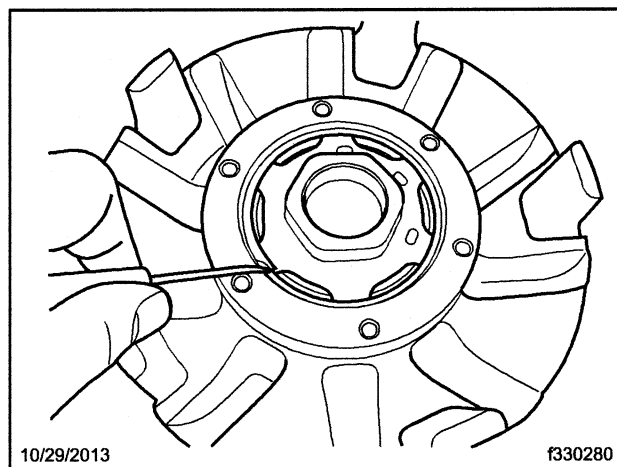

Fig. 5, Removing a Spiral Snap Ring
5. Loosen the spindle nut. As the spindle nut is loosened, it can act as a hub puller. However, if the hub will not come off of the spindle without exceeding 50 lbf·ft (68 N·m) of torque, remove the spiral snap ring (see **Fig. 5**) and then the spindle nut assembly.